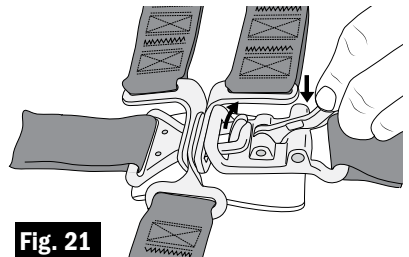

Fig. 21
6. Rotate latch lever down until you hear a **CLICK**. (Fig. 21)